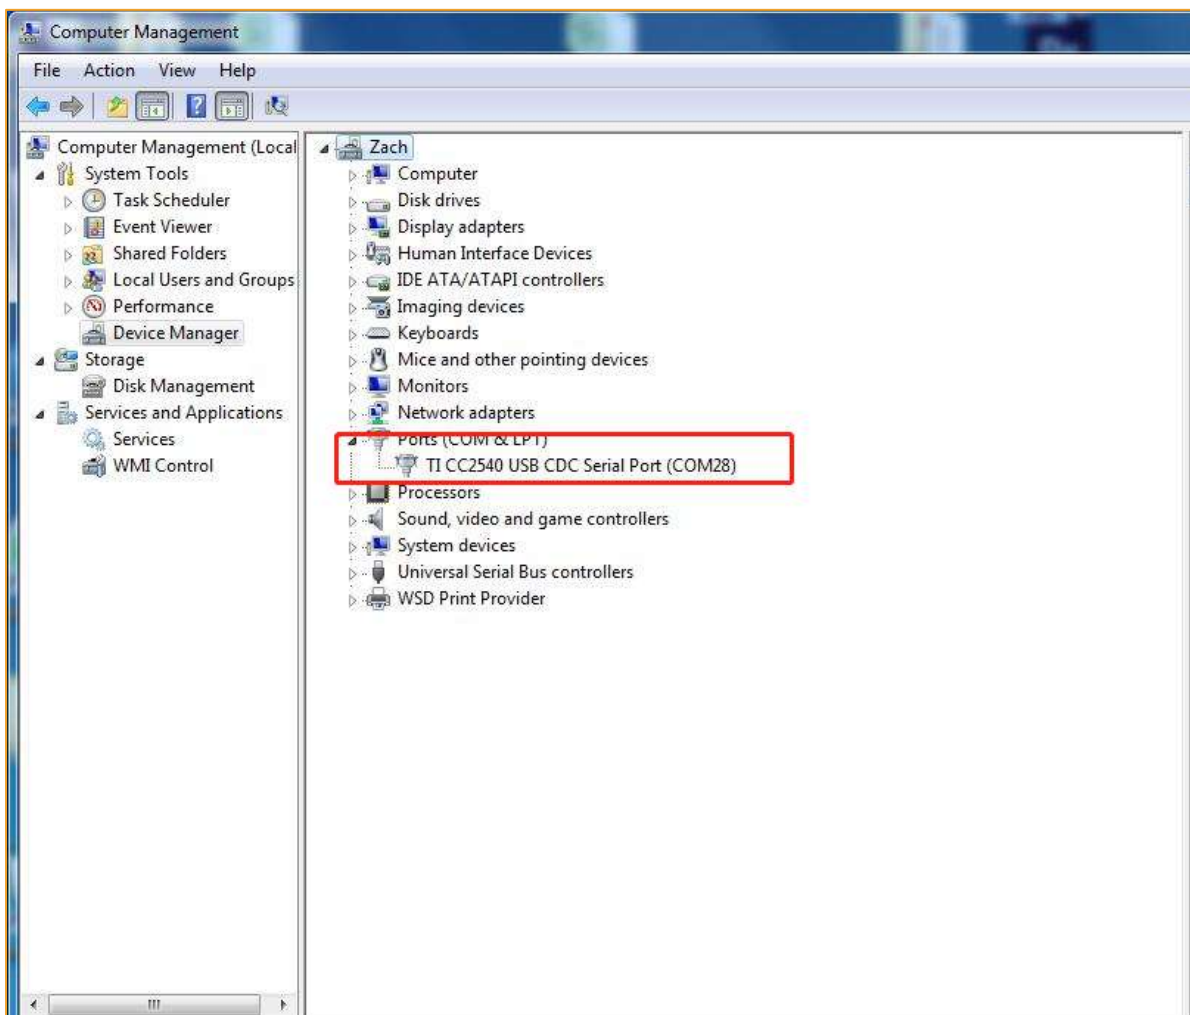

Figure 1.1 Drive the successful installation interface
- 1) Right-Click “Computer” → “attribute” → “Device manager” → check “port (COM<) ” , If you look at this figure 1.1